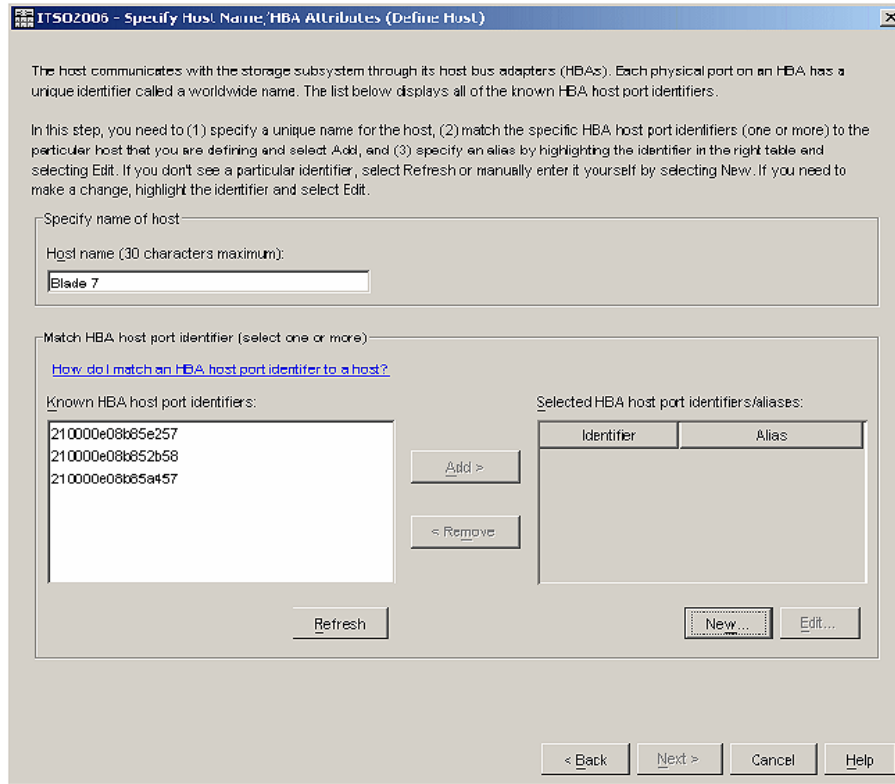

Figure 5-75 Naming the host
2. Name the host to reflect one of the server blades, as shown in Figure 5-75 on page 139.